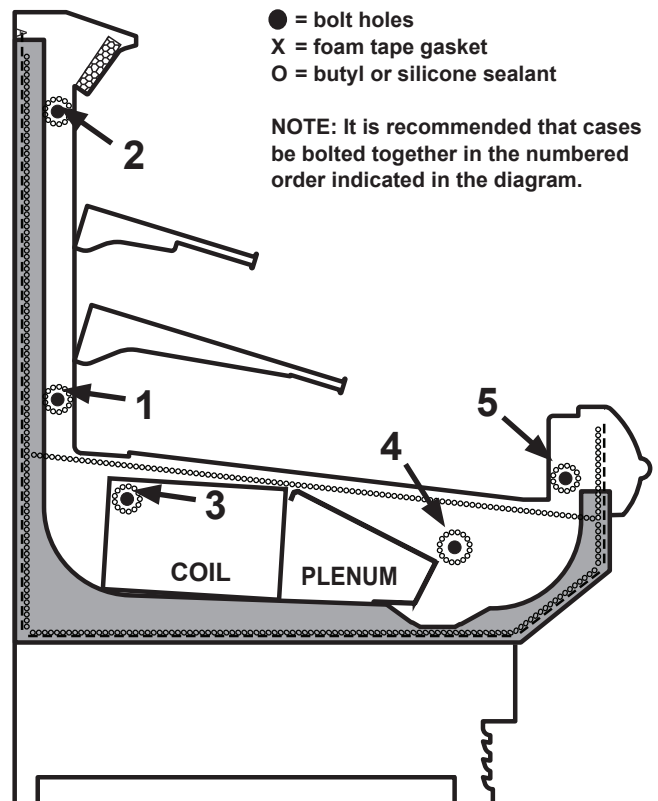

Fig. 2 Bolt holes, foam tape gasket and sealant
4. Apply the foam tape gasket (supplied) and a bead of butyl or silicone sealant to the end of the first case (Fig. 2). From the opposite end, push the second case to a position that is approximately 6" from the first case, then remove the remaining casters and position case on the shim packs.
5. Push the cases tightly together, then lightly bolt them together through the holes that are provided (Fig. 2). Tighten all the joining bolts until all margins are equal. Be careful not to over tighten.